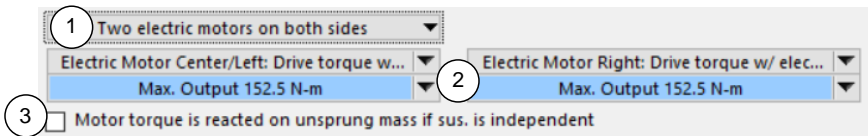

Figure 47. Additional data settings for electrically driving wheels.
3. **Two electric motors on both sides:** two dataset links for the electrical motors ② appear and the electric motor torque characteristics are specified for each side (Figure 47). Also, an additional checkbox ③ appears to specify the body reacting to the motor torques (e.g., the spinning and non-spinning parts of the unsprung mass for an independent suspension). The diagrammatic figure is shown in Figure 43.